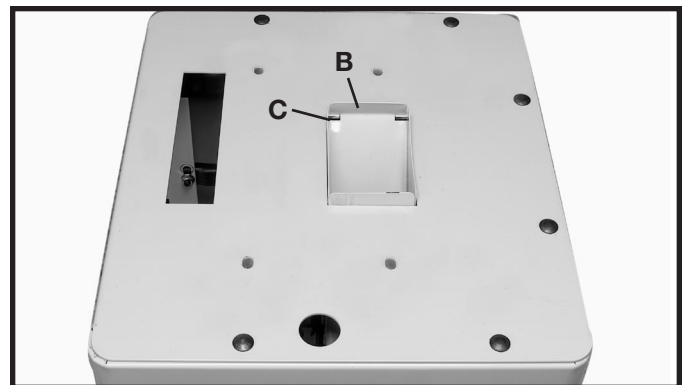

Fig. 12
NOTE: MAKE SURE THE TAB (B) FIG. 12, IN THE DUST CHUTE, ENGAGES THE CUTOUT (C) IN THE TOP OF THE STAND.